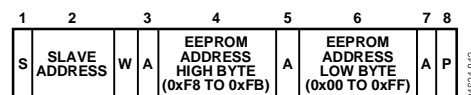

Figure 32. Setting an EEPROM Address
- To set up a 2-byte EEPROM address for a subsequent read, write, block read, block write, or page erase. In this case, the command byte is the high byte of the EEPROM address from 0xF8 to 0xFB. The only data byte is the low byte of the EEPROM address, as shown in Figure 32.